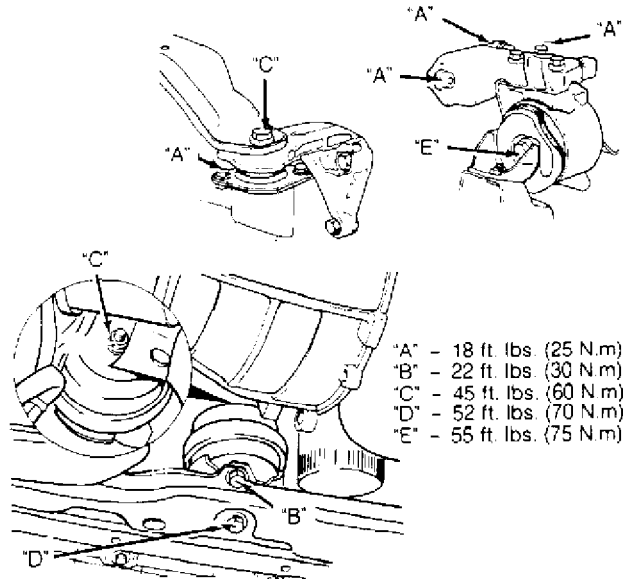

Fig. 2: Engine/Transaxle Alignment
1) To install, reverse removal procedure. Engine alignment adjustment is necessary whenever engine is removed or mounts are loosened. To adjust, loosen through bolt on engine mount "A". Loosen transmission transaxle mount "B" bolts. Loosen front engine mount and bracket. See Fig. 2.